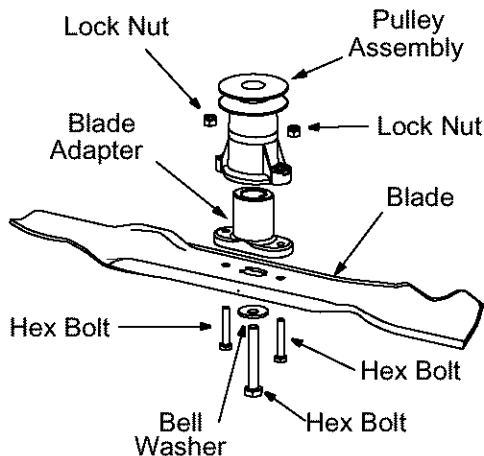

Figure 12
- Remove the bolt and bell washer which hold the blade-pulley assembly to the engine crankshaft. See Figure 12. Remove the assembly from the crankshaft.
- Install the blade adapter on the pulley with the "star" away from the pulley. See Figure 12.